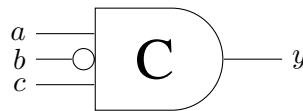

Figure 6: 3-input C gate with one inverted input
- a) Draw an STG specifying the behavior of a 3-input C gate where one input is inverted (see Figure 6). Don't forget to also include a valid initial marking of the STG (i.e., the edges and/or places that contain tokens). Further assume a well-behaved environment, i.e., transitions on the inputs (a , b , c) only happen after a transition on the output (y).